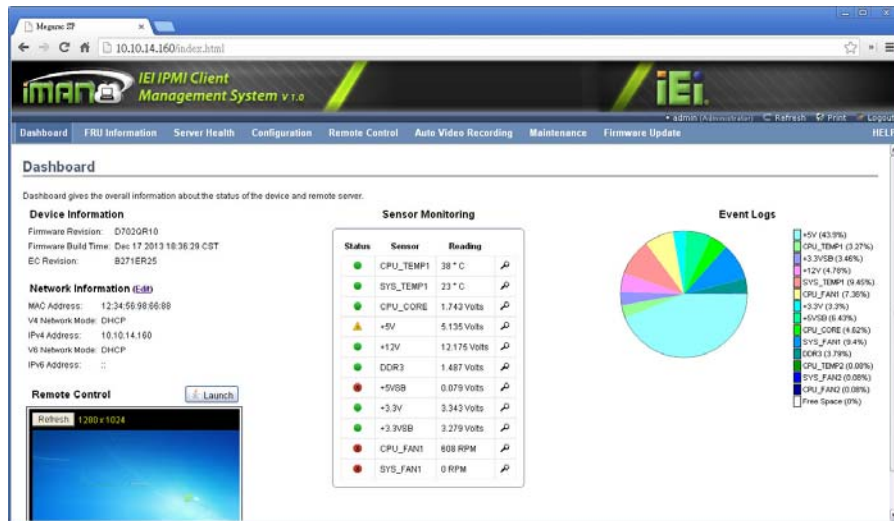

Figure 4-16: IEI iMAN Web GUI
Step 6: The IEI iMAN Web GUI appears (**Figure 4-16**).